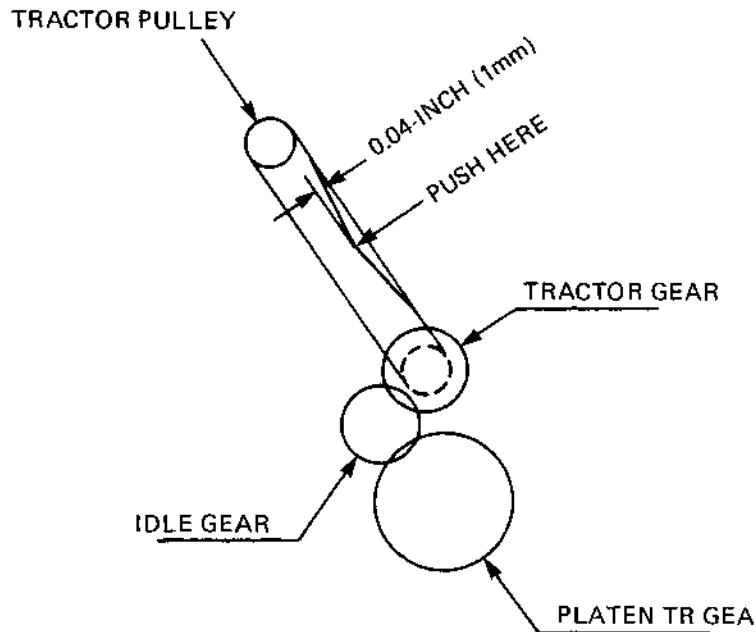

Figure 5-11 Bidirectional Forms Tractor Belt Tension
- b. Push at the center of the belt with a force of 0.6 to 1 oz. (20 to 30 grams). The belt should deflect approximately 0.04-inch (1 mm) (see Figure 5-11).